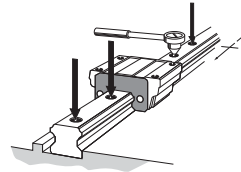

Fig.6 Fully Fastening the Mounting Bolts
- (4) Tighten the mounting bolts at the designated torque using a torque wrench. (See Fig.6, and Table1 and Table2 on A1-332.)